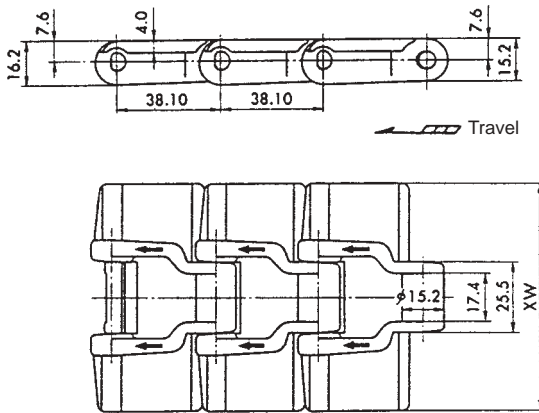

Figure 4.6 TTUP Top Chain
- (1) TTUP Top Chain is based on engineered plastic TP Top Chain, Type II, but it has extra side-flexing capability. It can curve around corners with minimum radius (R) of 600 mm. This is accomplished with tapered knuckles.
- (2) There are no float-prevention tabs on links of TTUP Top Chain (Figure 4.6).
- (3) Tables 4.6 and 4.7 show the main functions and available top plate widths for different chain series.